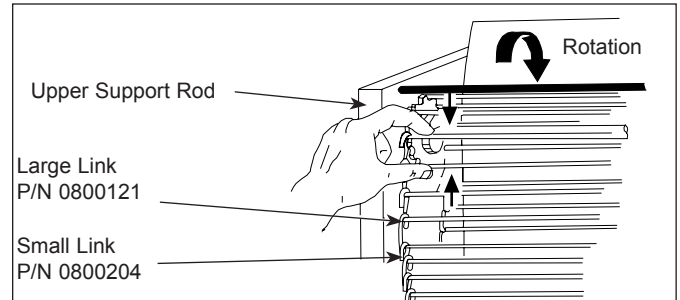

Figure 14. Removing Conveyor Belt Chains
After a period of time, the Conveyor Chain links will wear and the Conveyor Belt chain will stretch, eventually skipping on the sprockets. This is easily remedied by removing one or more conveyor links from each side of the belt. There are two 1/2" small links on each side of the conveyor belt. The rest of the links are large, 3/4" long (Figure 14).
2. Disconnect the Conveyor Belt Chain by squeezing any two links together and unhooking both ends of one link (Figure 14).
2. Place the replacement Conveyor Belt Chain on the top sprockets with hook ends down. Check for correct positioning (Figure 14).
NOTE: The ends of the hooks must point down. (Figure 14).